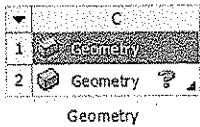

Figure 3-56 The **Geometry** component system added to the project
- 2. Right-click in the **Project Schematic** window and choose **New Component Systems > Geometry** from the shortcut menu displayed; the **Geometry** component system is added to the **Project Schematic** window, as shown in Figure 3-56.